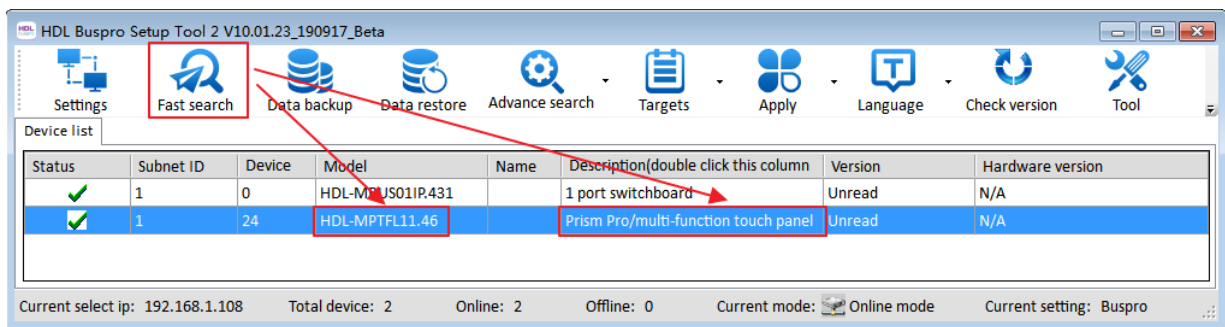
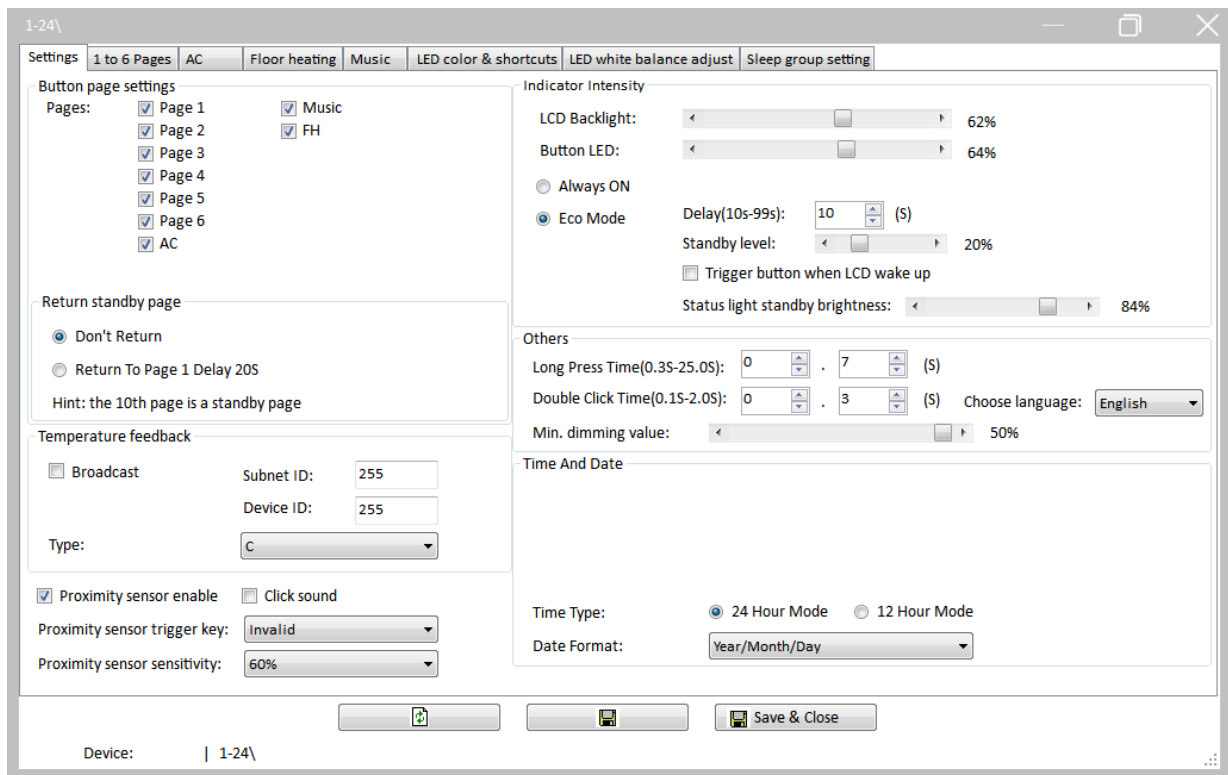

Figure 3-1 Open configuration page
Figure 3-2 Panel configuration page
- ① Connect the panel and motor to the system and open Buspro Setup Tool 2 in the computer.
- ② Click “Fast Search” to search for the devices connected to the system.
- ③ Double click the “Model” or “Description” column of the panel to enter configuration page, as shown in Figure 3-1 and Figure 3-2.